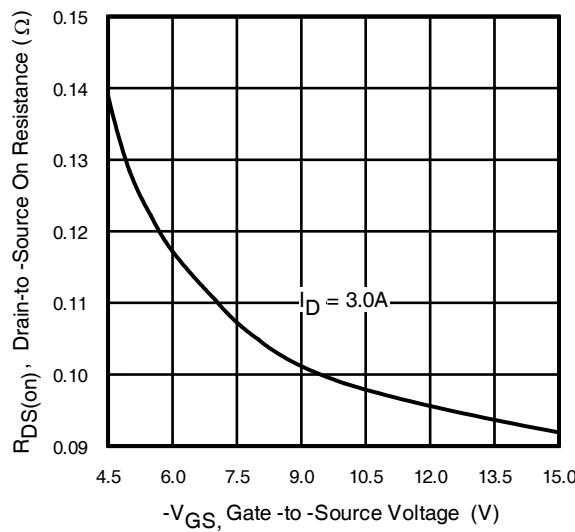
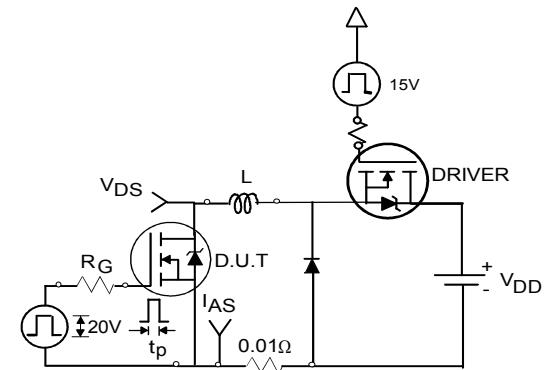

Fig 12. Typical On-Resistance Vs.
Fig 16b. Unclamped Inductive Test Circuit
- ① Repetitive rating; pulse width limited by max. junction temperature.
- ② Pulse width $\leq 400\mu\text{s}$; duty cycle $\leq 2\%$.
- ③ Surface mounted on 1" in square Cu board.
- ④ Starting $T_J = 25^\circ\text{C}$, $L = 4.9\text{mH}$, $R_G = 25\Omega$, $I_{AS} = 3.0\text{A}$. (See Fig. 12)
- ⑤ $I_{SD} \leq 2.0\text{A}$, $dI/dt \leq 155\text{A}/\mu\text{s}$, $V_{DD} \leq V_{(\text{BR})\text{DSS}}$, $T_J \leq 175^\circ\text{C}$.
- ⑥ Limited by $T_{J\text{max}}$, see Fig. 16b, 16c, 19, 20 for typical repetitive avalanche performance.
3. Equation below based on circuit and waveforms shown in Figures 16b, 16c.